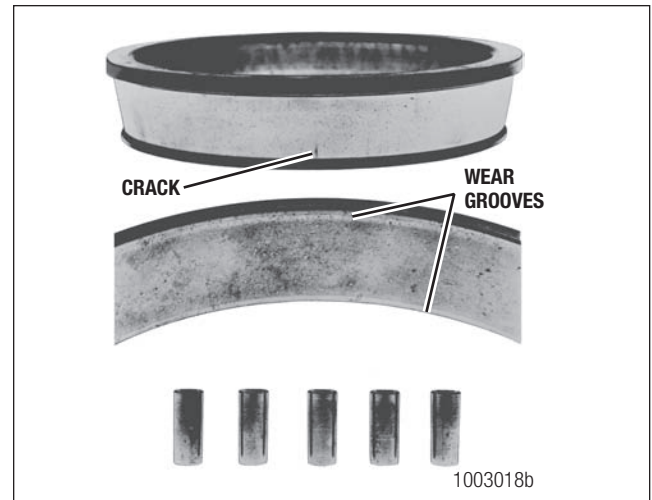

Figure 6.2
- Deep cracks or breaks appear in the surfaces of the cup, cone, inner race, or rollers. Figure 6.2.